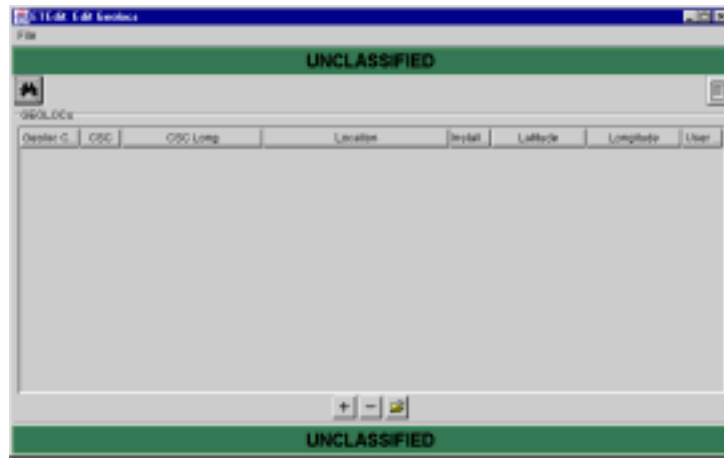

Figure 5.161 ETEdit: Edit Geolocs Window
- On the ETEdit (main) window, on the Reference menu, click GEOLOC FILE>Edit GEOFILE. The ETEdit: Edit Geolocs window opens (Figure 5.161).